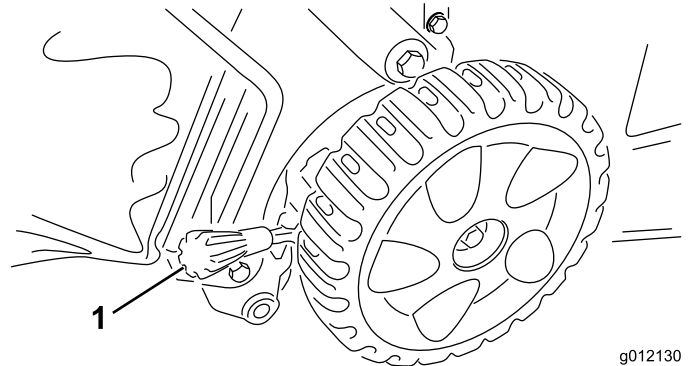

Figure 10
**Note:** To raise the machine, move both cutting-height levers forward; to lower the machine, move them rearward (Figure 10).